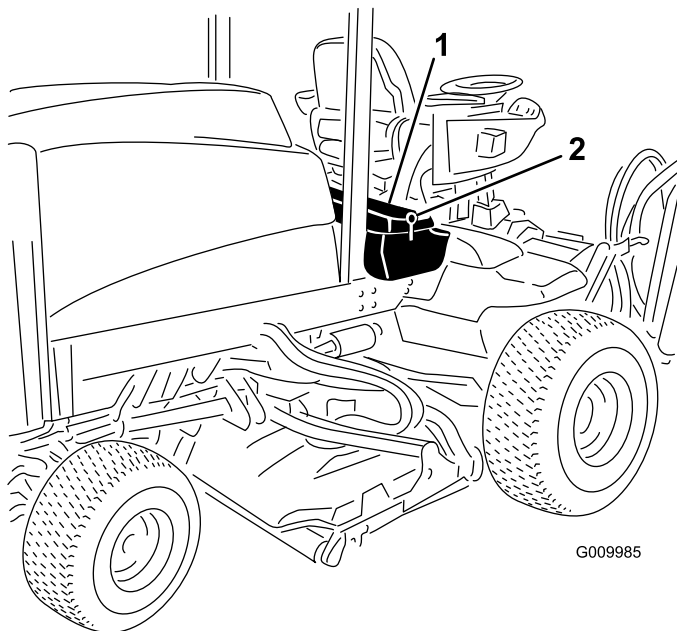

Figure 42
1. Unlatch and raise the operator's console panel (Figure 42).